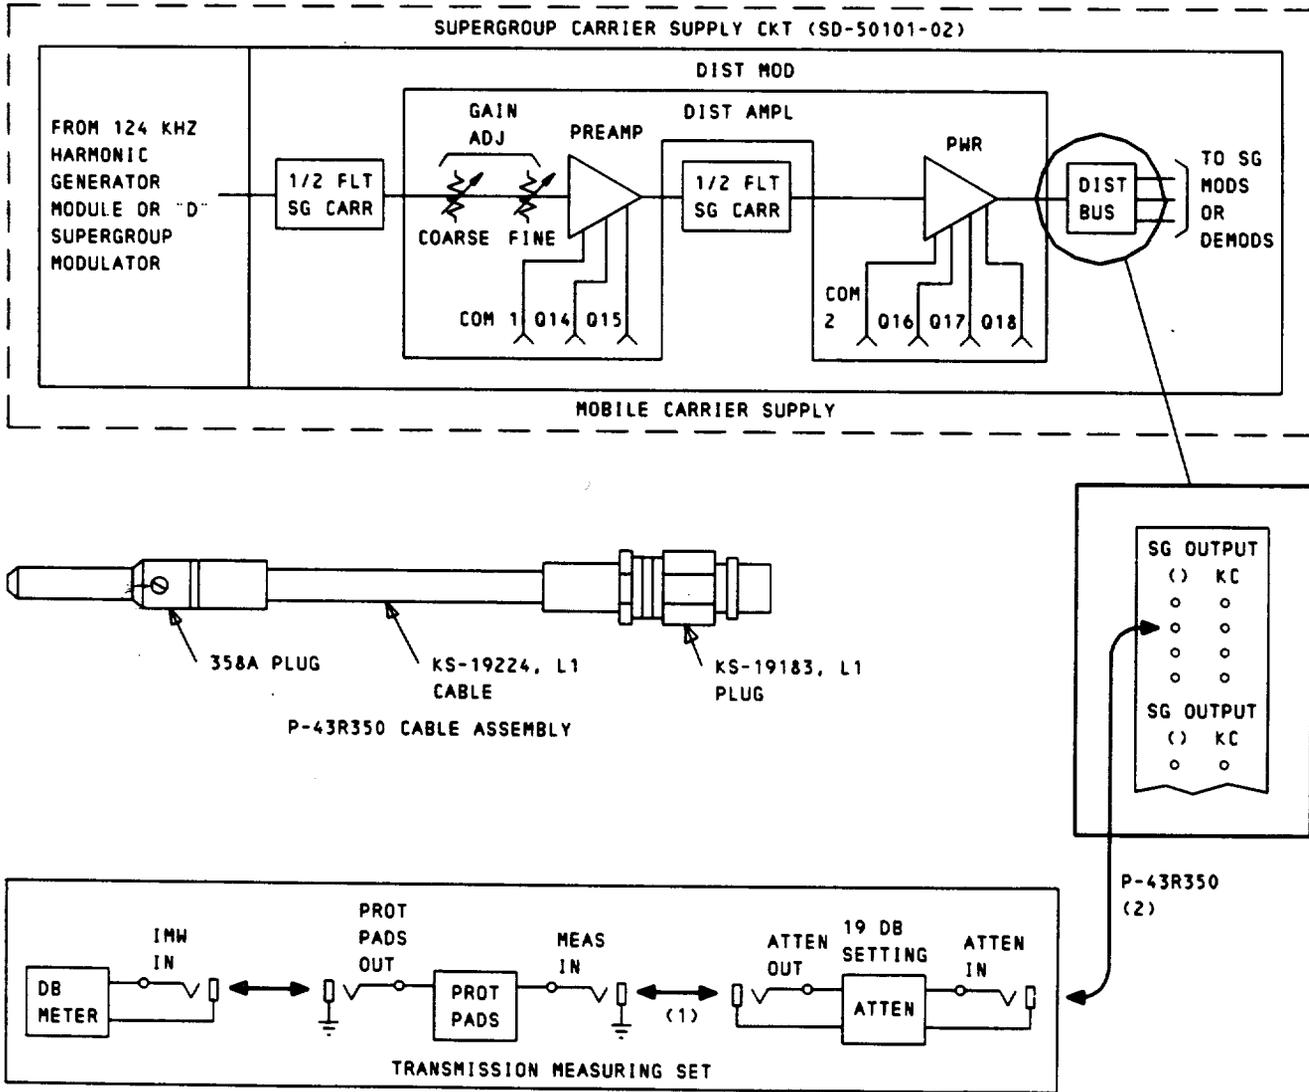

Fig. 3—Supergroup Carrier Supply Power Measurement
| 17   | Make patch (1) in Fig. 3.  |
| 19   | Make patch (2) in Fig. 3 to the tap from which the termination was removed.  |